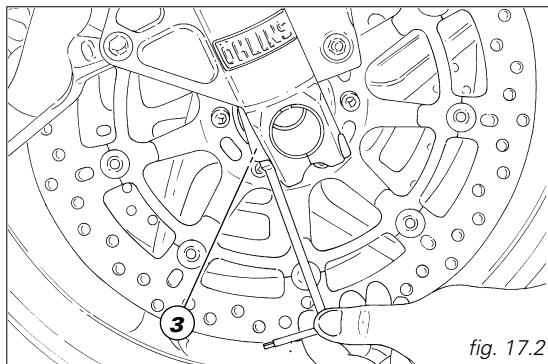

fig. 17.2
- 3) (fig. 17.2) to adjust compression damping.
**E** Put and secure the motorcycle in vertical position. Turn the adjuster (1) on fork leg top with a 3-mm Allen wrench to adjust rebound damping. To reach the adjuster (3), insert a 3-mm Allen wrench into the hole as shown in fig. 17.2. As you turn the adjusting screws (1 and 3), you will hear them click. Each click identifies a setting. Turn the screw all the way in to set the hardest damping (position 0). This will be your starting point. Now turn the screw anticlockwise and listen for the clicks that identify setting positions no. "1", "2" and so on.